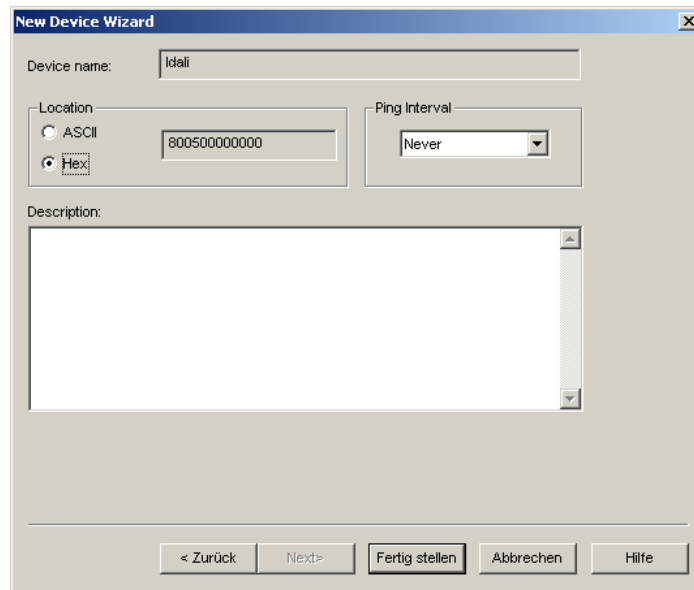

Figure 86: Leave defaults for Location.
5. The following dialog shown in Figure 86 appears, click **Next**.